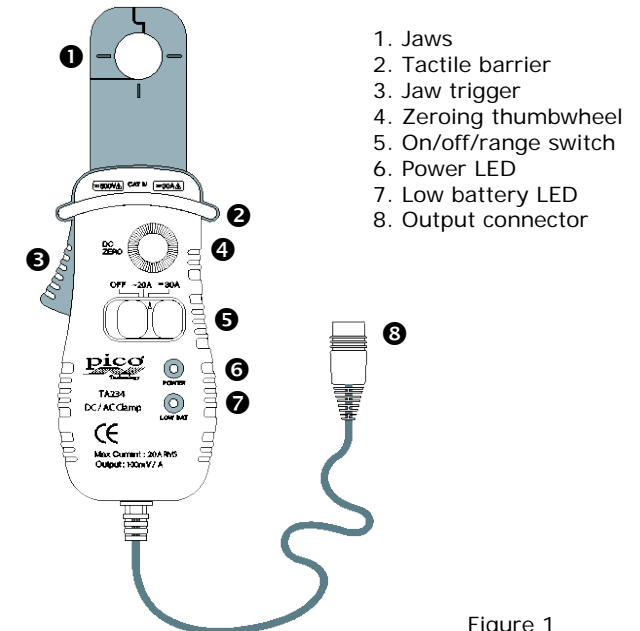

Figure 1
- Do not hold the clamp anywhere beyond the tactile barrier: see Fig. 1.
The red **LOW BAT** LED (Fig. 1) will light when the minimum battery voltage is approached. Use the following procedure to replace the battery: